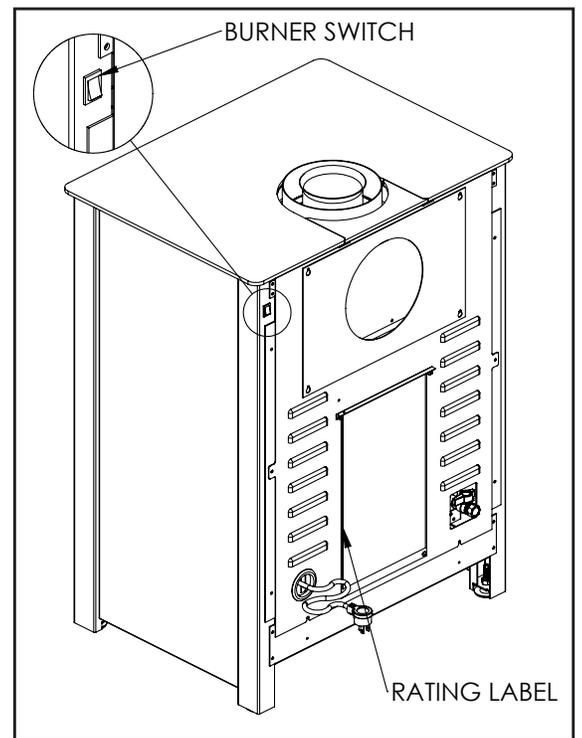

Figure 6. Burner Switch and Rating Plate
The rating label and lighting instructions are located on the backside of the Stove (Figure 6).
- Flip the burner switch, located at the top right rear of the S20, to ON (see Figure 6).